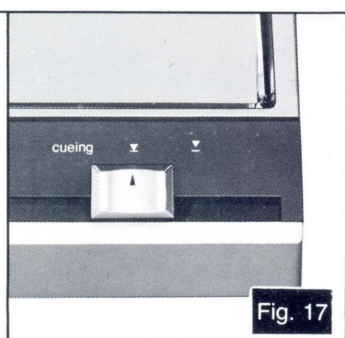

Fig. 17
- 6 Move the tonearm over the record and set the cueing knob to the "▲" position. (See Fig. 17.)